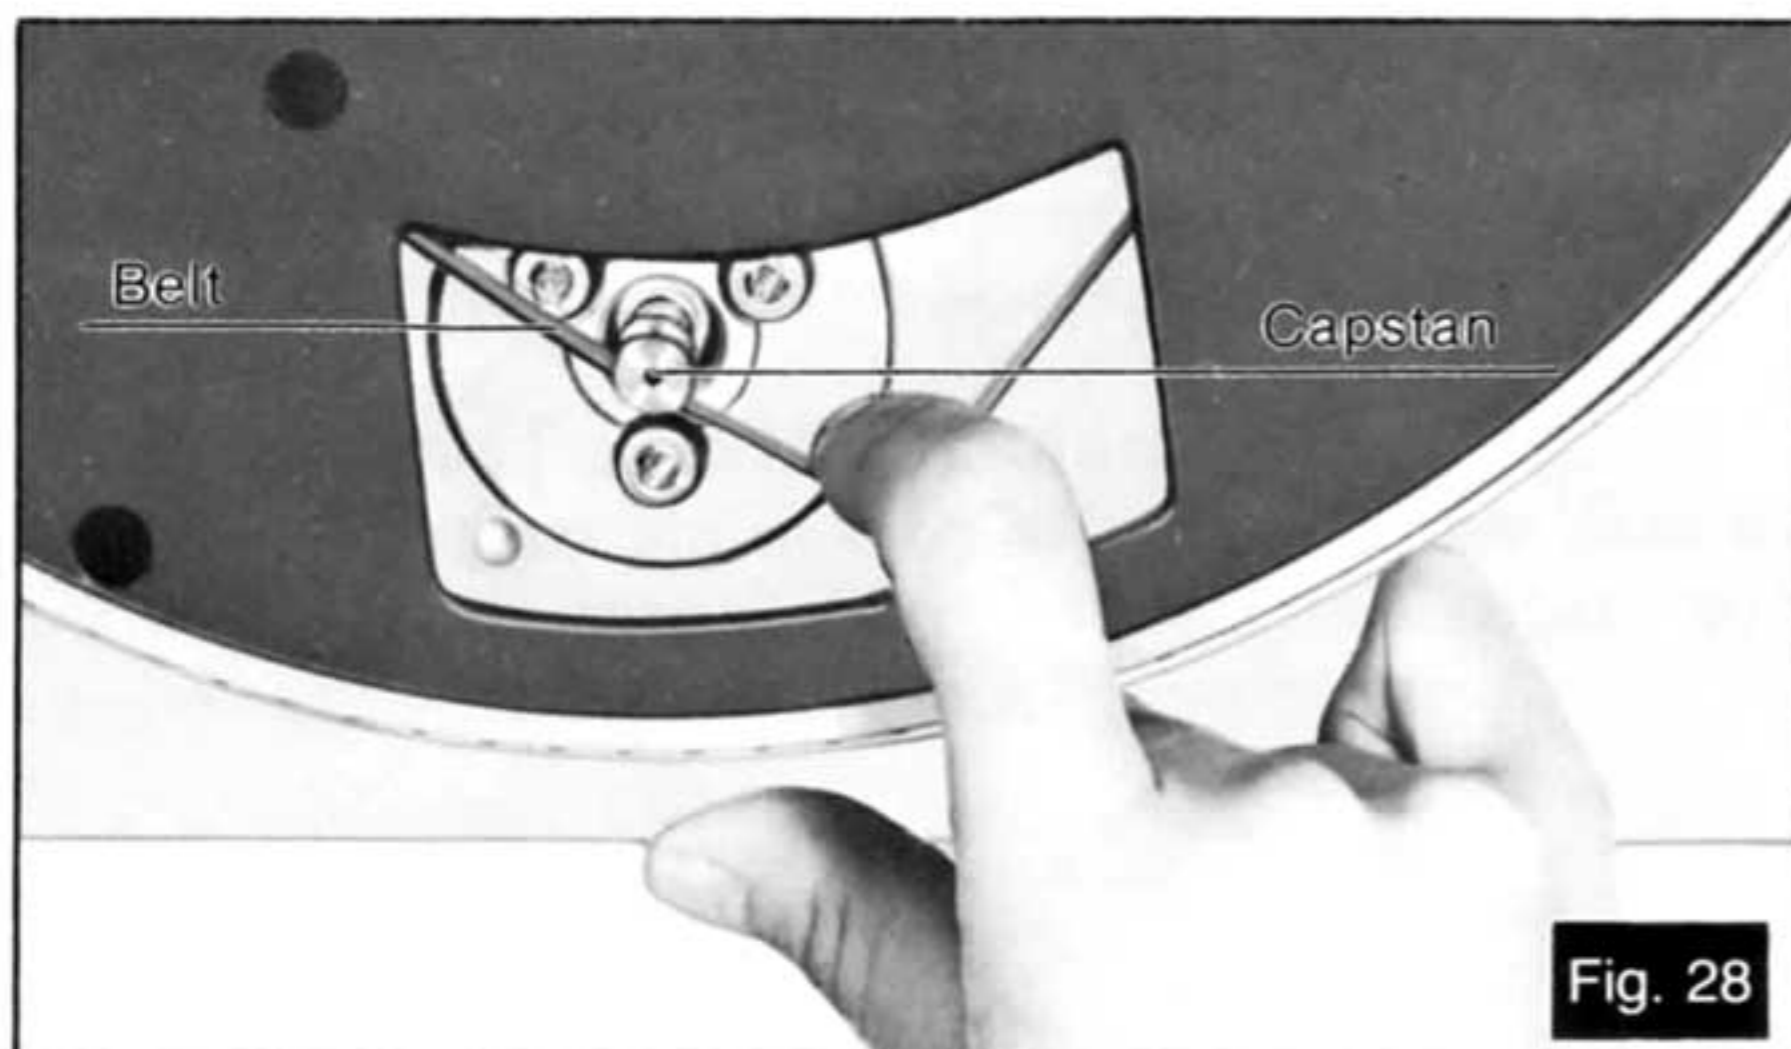

Fig. 28
## ① How to remove and install the turntable platter (See Fig. 28.)